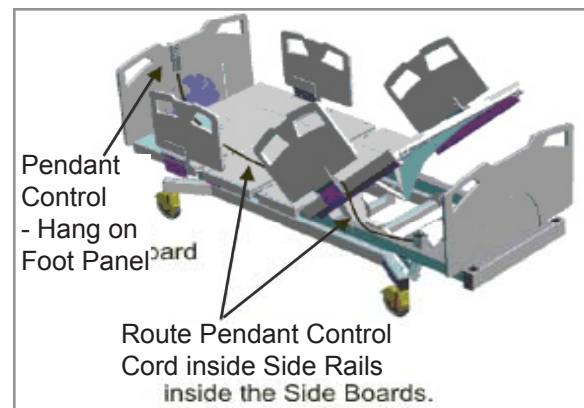

Figure 16
- f. **Caution:** Before transporting bed, unplug bed from power source, wrap Power Cord around Cord storage hooks below head Panel, hang Pendant Cord from Foot Panel, and route Pendant Cord inside Side Rails (Figure 16). Failure to do so could result in Pendant Cord, Power Cord or bed damage, thereby creating a potential hazard. Insure Pendant Cable and Power Cord are off floor and away from Casters.